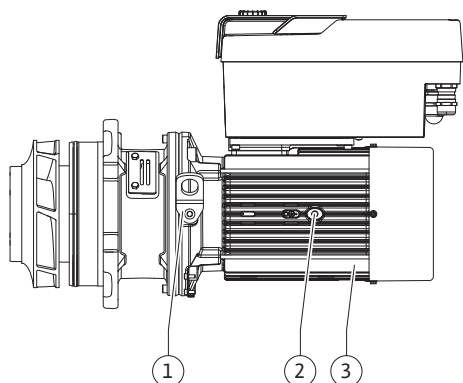

Fig. 112: Motor impeller unit
13. Insert the motor impeller unit (see Fig. 112) into the pump housing in the old or another desired angular position. Observe permitted installation positions of the components (see "Permitted installation positions and change of the arrangement of components before installation" [► 26] section).